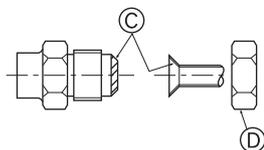

Fig. 4-5
Ⓐ (Fig. 4-5)
Ⓑ (Fig. 4-5)
4.4. Connecting pipes (Fig. 4-5)